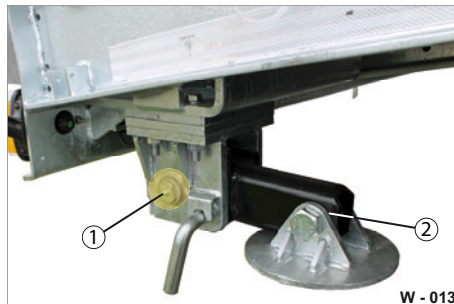

Fig. 11 Lubricating support props
- ▶ Lubricate the support foot on the lubrication nipple (Fig. 11/1) with a grease gun until lubricant escapes.
- ▶ Lubricate the bearing point (Fig. 11/2) on both sides with machine lubricant.